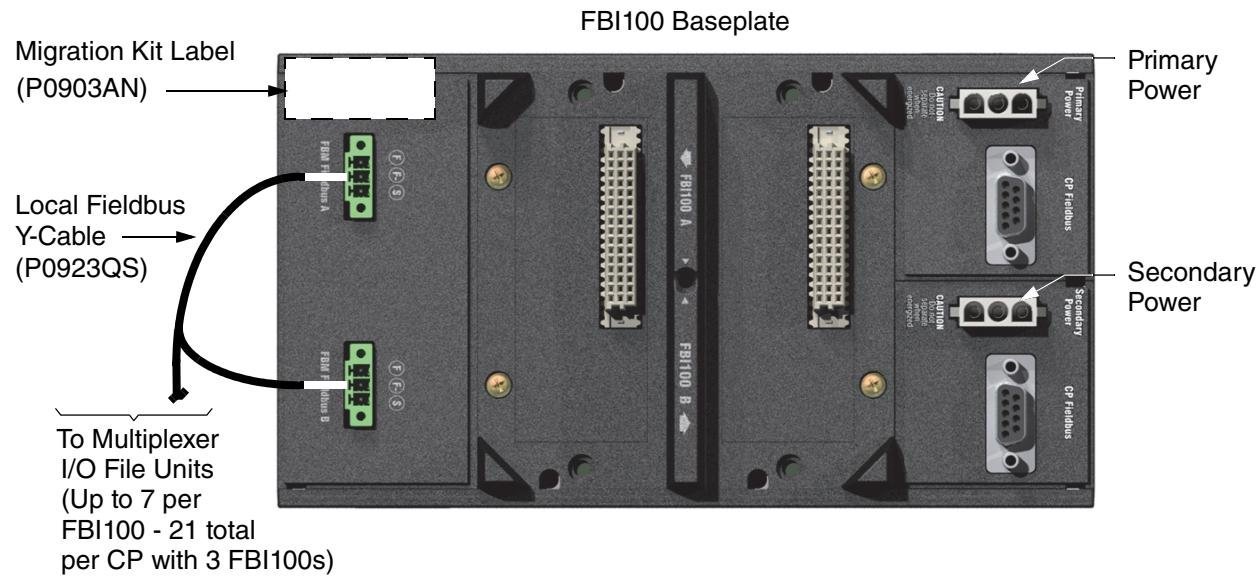

Figure 4-30. Installing Label on FBI100 Baseplate (P0923LR)
3. Install the migration kit label, P0903AN, on the FBI100 baseplates (P0923LR) in the approximate position shown in Figure 4-30.
6. Attach the Local Fieldbus cable(s) (P0923QS) to the FBI100 baseplate, as shown in Figure 4-30.